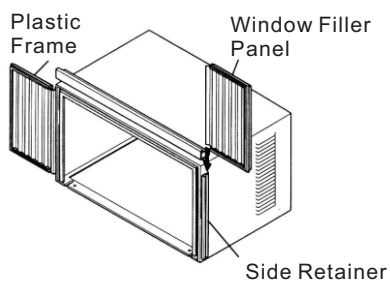
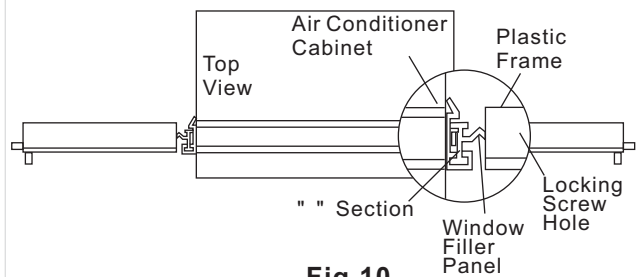

Fig.9
Fig.10
2. Slide 1" section of window filler panel into side retainer on the side of the cabinet (see Fig.9 & Fig.10). Do both sides.